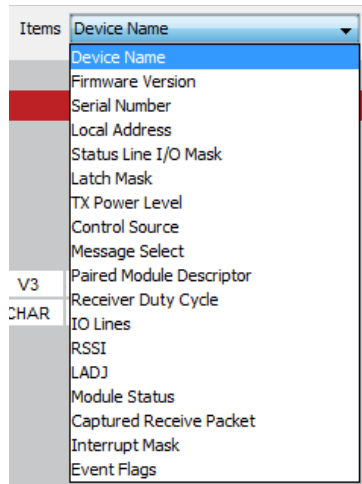

Figure 19: The Master Development System Software Demo Command Set Tab Items Menu
- The Items drop down menu displays all of the items that are available for the active module (Figure 19). Selecting one of the items from this menu automatically fills in the Command box. The values can be adjusted by typing in the box.